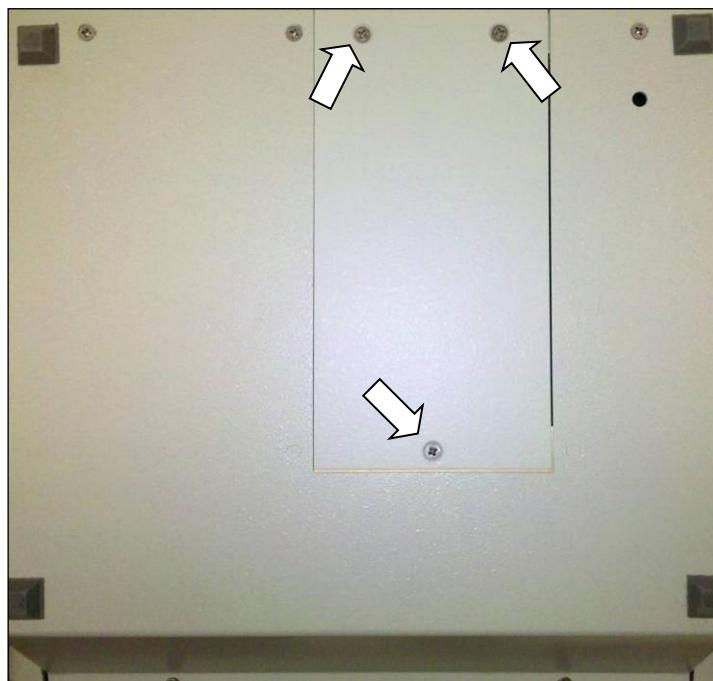

Figure 15-3
- b. Turn the console upside down with the keypad facing down. Locate the rectangular access panel on the bottom of the readout unit. Remove the 3 flat head screws securing the access panel as shown in Figure 15-3.